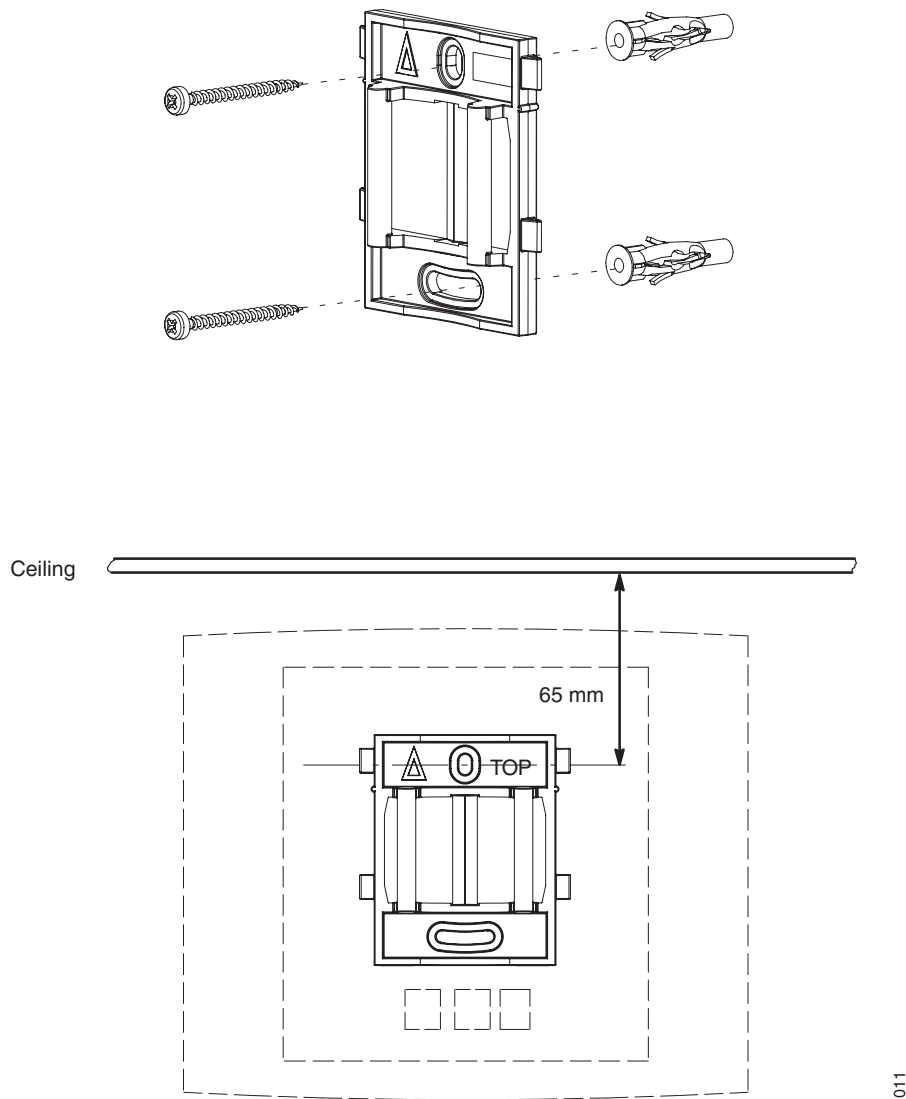

Figure 4. Fixing the mounting bracket to a wall
Fix the mounting bracket (see figure 4 on page 14) to the wall as follows:
- 1 Hold the mounting bracket with its flat side against the wall with the text 'TOP' upwards and mark the two holes. The minimum distance between the upper hole and the ceiling or any object above the base station must be at least 65 mm, see figure 4. If the distance is less than 65 mm, the base station cannot be slid onto the bracket.